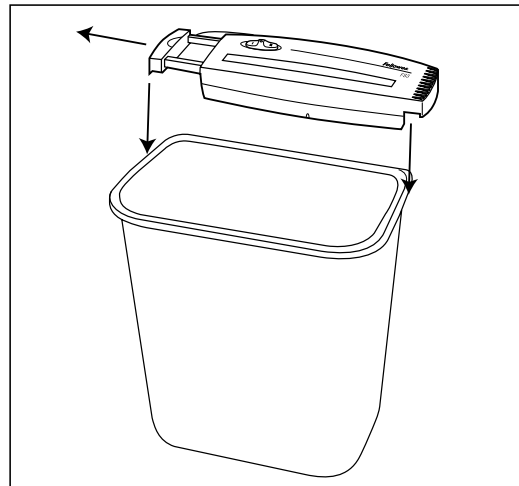

Figure 1
1. Position shredder head over basket. Extend adjustable arm to fit width of basket as shown in Figure 1.